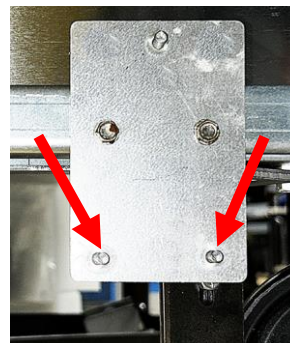

Figure 3
9. Attach the plate removed in step 7 with cabinet screws, to the two (2) holes as shown in Figure 2. Ensure the two (2) studs are located on the bottom of the plate (see Figure 3).